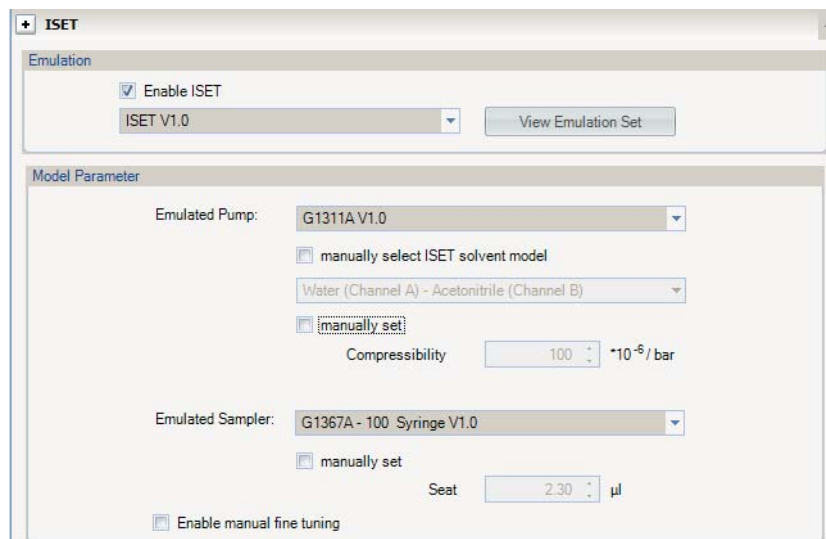

Figure 2 Model Parameter section
- 6 Click the **Emulated Pump** down arrow and select the pump used for the original method from the drop-down list, see Figure 2 on page 23.